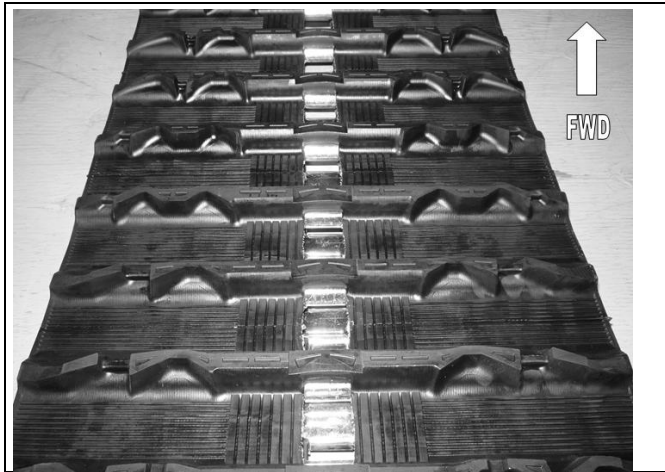

Figure 10
- Be sure to install the **rear** rubber track with the right orientation (refer to Figure 10).